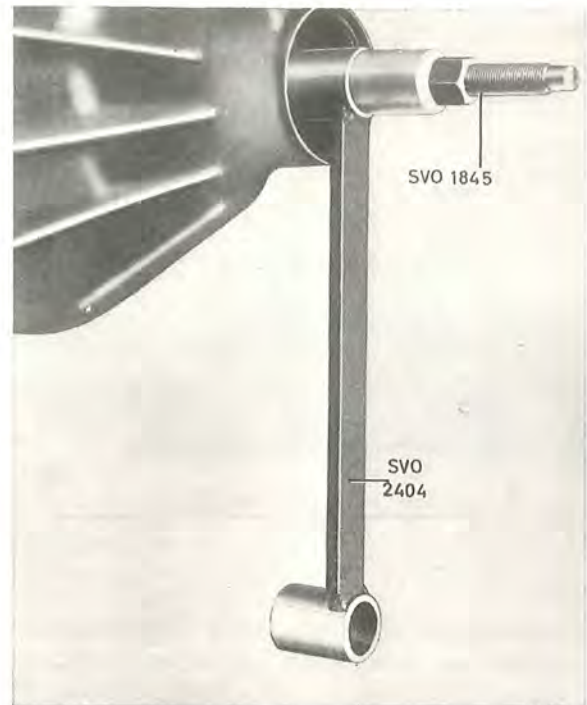

Fig. 4-93. Fitting the pinion
- Insert the pinion in the casing and fit on three .75 mm (.03") thick shims and the front pinion bearing. Fit tool SVO 2404 and press tool SVO 1845 on the front end of the pinion end pull in the pinion, see Fig. 4-93. Apply the nut tightener until it must press the pinion forwards so that it does not strike against the bearing positions.